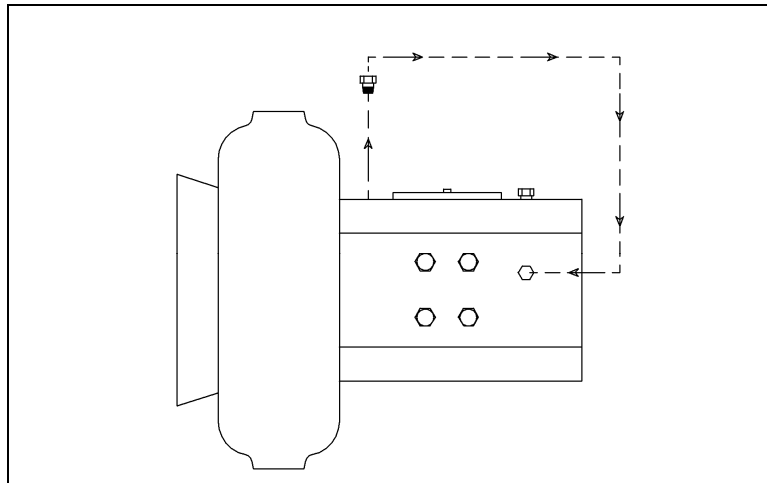

Figure 2: Old Components Removed
8. Remove the fittings in the side of the actuator that were tubed to the OPEN and CLOSE lines from the old hand pump. Also, remove the plugs in the upper head on the control side. Clean the threads of the plugs, apply an appropriate pipe sealant and plug the side ports. (See Figure 2)